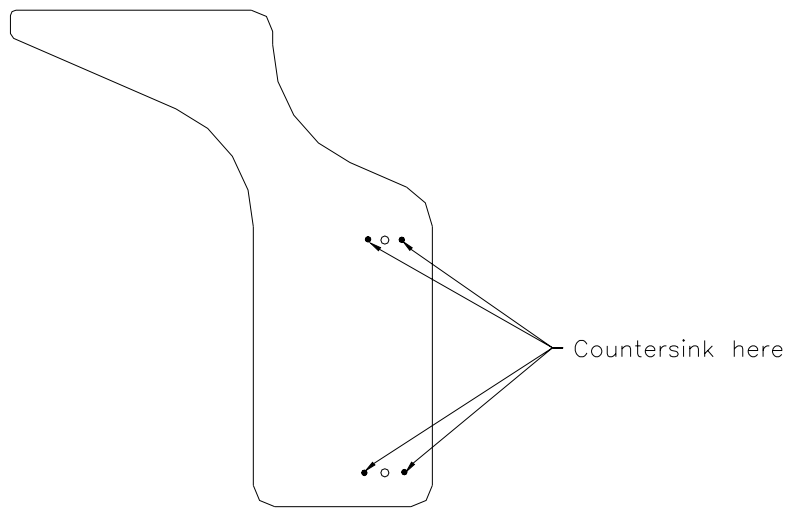

Figure 20.5.11
**NOTE:** Be sure to countersink the anchor nut attachment holes on the outer side of the doubler. Figure 20.5.11.